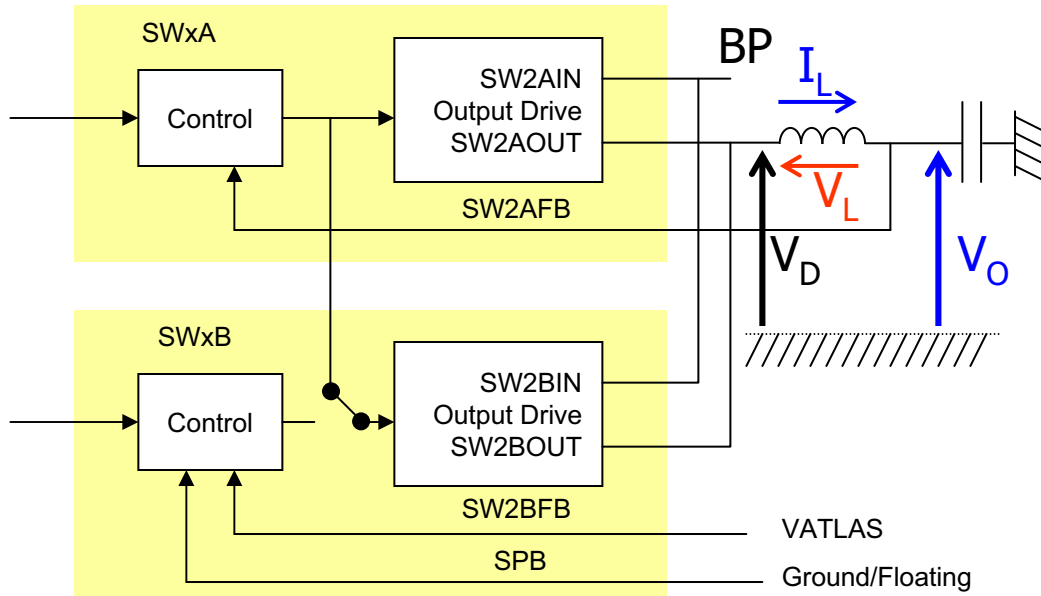
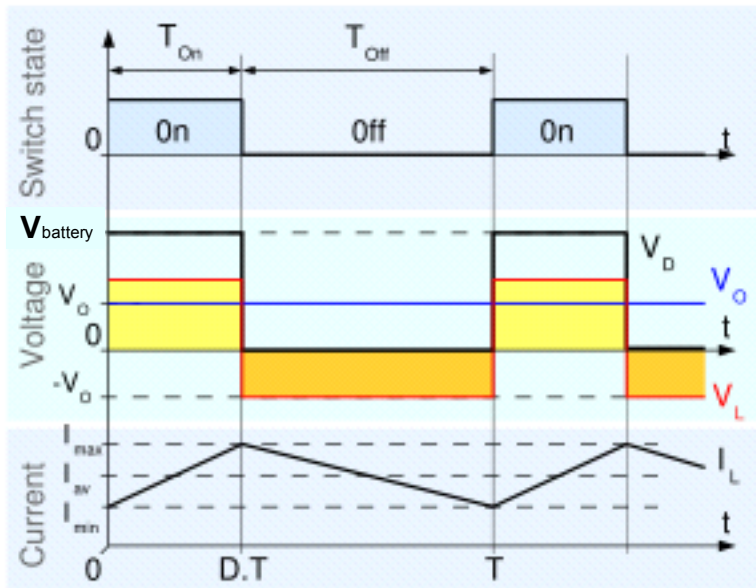

Figure 2. Switcher Architecture
Figure 3. Switched Power Waveform
Figure 2 and Figure 3 display the switcher schematic and waveforms for transistor switched output voltage (VD), Inductor voltage (VL), Output Voltage (VO) and Inductor current (IL). The signal VD is a